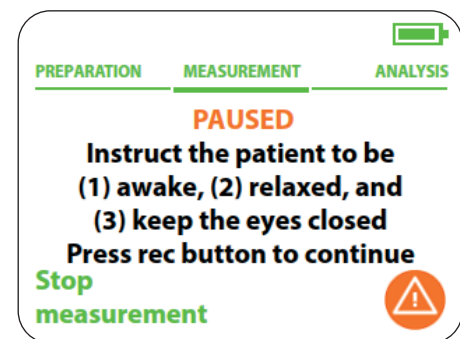

Figure 27: monitor screen indicating a measurement is paused.
- The Monitor screen displays the PAUSED message (see Figure 27)